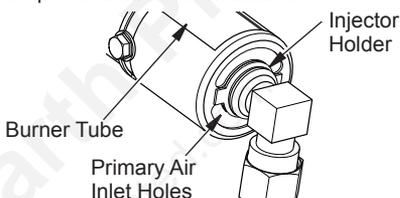

Figure 49 - Injector Holder On Outlet Burner Tube
2. Inspect burner, pilot and primary air inlet holes on injector holder for dust and dirt (see Figure 49).